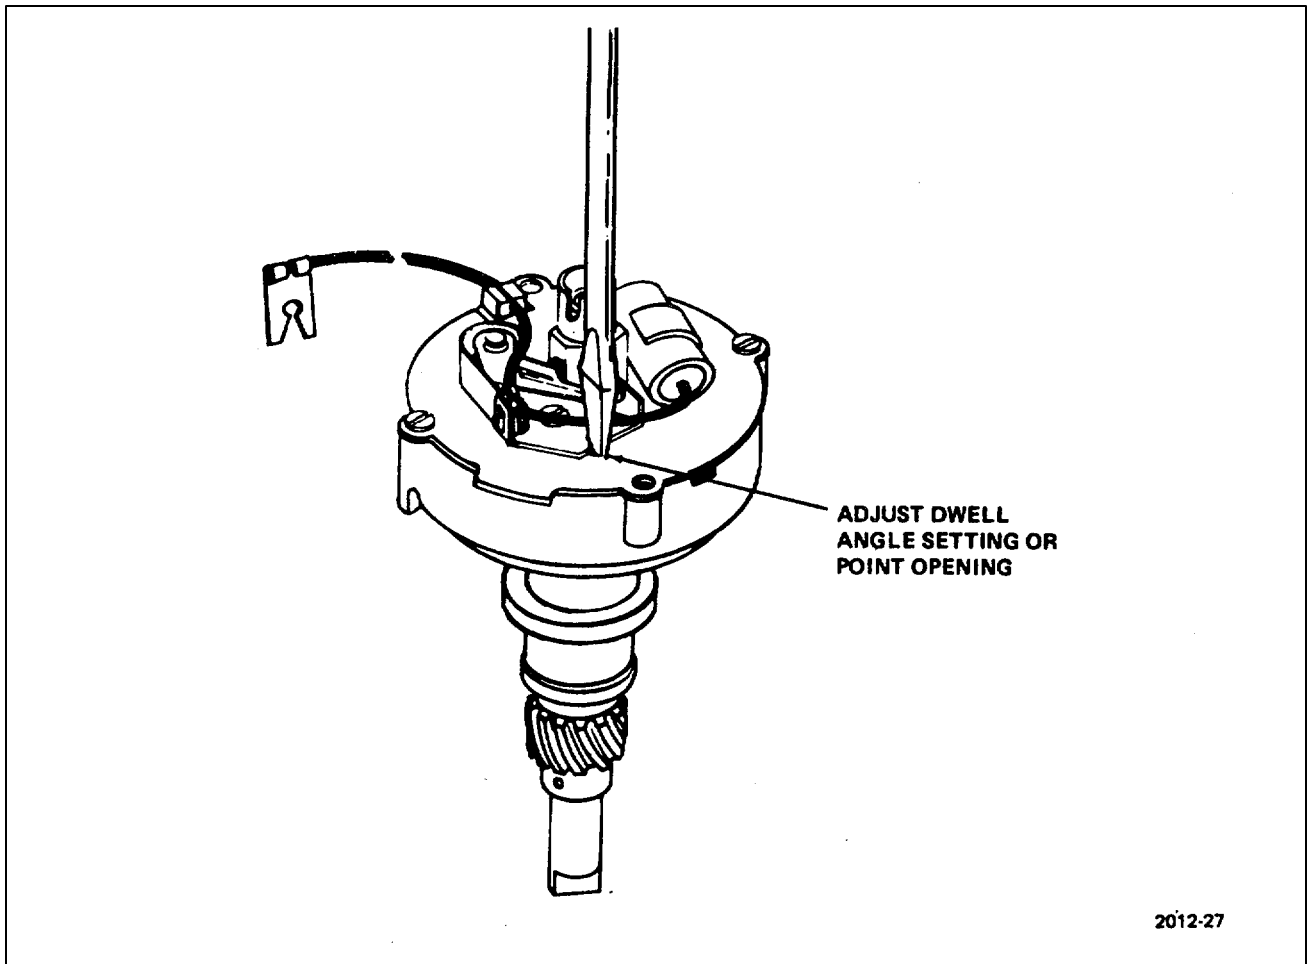

Figure 5-6. Breaker Point Adjustment
i. Set point opening to 0.021 inch as shown in figure 5-6.